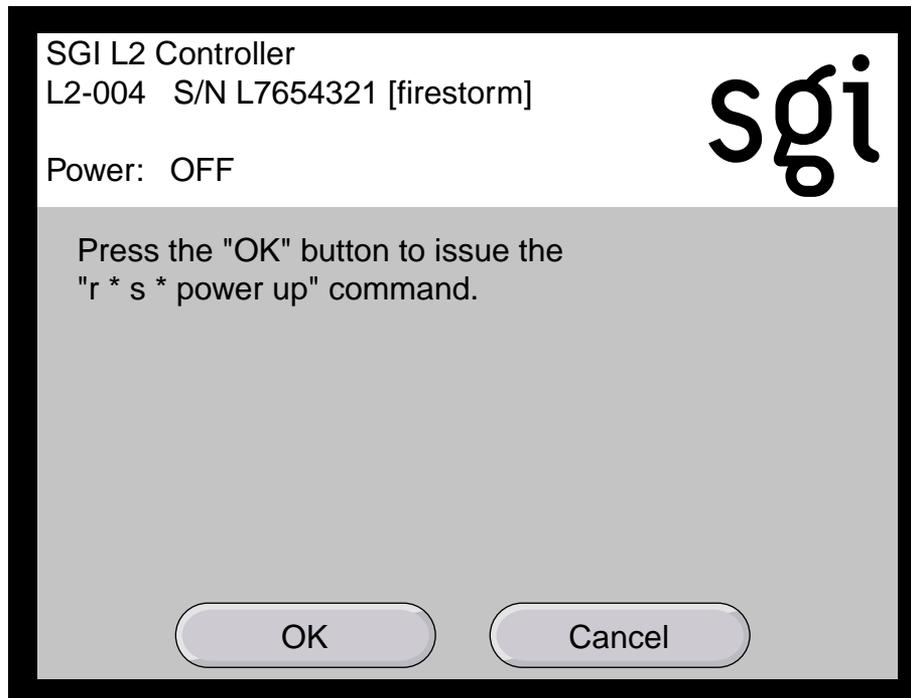

Figure 4-13 Power UP Confirmation Window
7. After you have selected the destination of the bricks you want to power on, select **Power UP** on the home window. The **Power UP** confirmation window, shown in Figure 4-13, appears. This window indicates which bricks will receive the **Power UP** command. In this example, it will power on all slots (bricks) in all racks ($r * s^*$). If you select **OK**, the power-on operation is confirmed, and the home window appears. Selecting **Cancel** stops the power-on operation, and the home window appears.